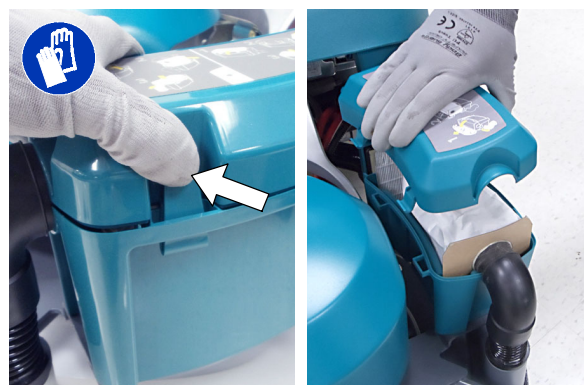

FIG. 11
2. Remove the the cover from the dust collection bag compartment. Press the two cover tabs to remove cover (Figure 11).